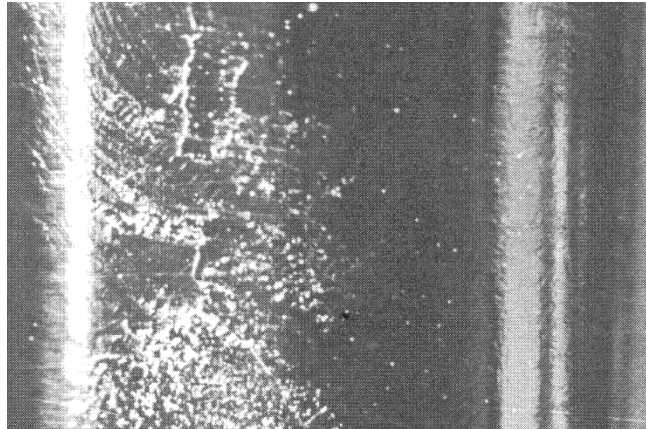

Fig. 9-11. Scale is caused by excessive die release material. The build-up of oxides must be cleaned or polished from the die.
**Scale.** Build-up of die release materials (or their oxides) on the die results in an irregular, rough surface on the casting as shown in Fig. 9-11. The material must be removed with a caustic solution or by polishing the die. The same care is needed as described for soldering. After cleaning the die, the amount of release material applied for each shot must be reduced. Sometimes, it may be desirable to change the type of release material and/or the dilution ration of the material.